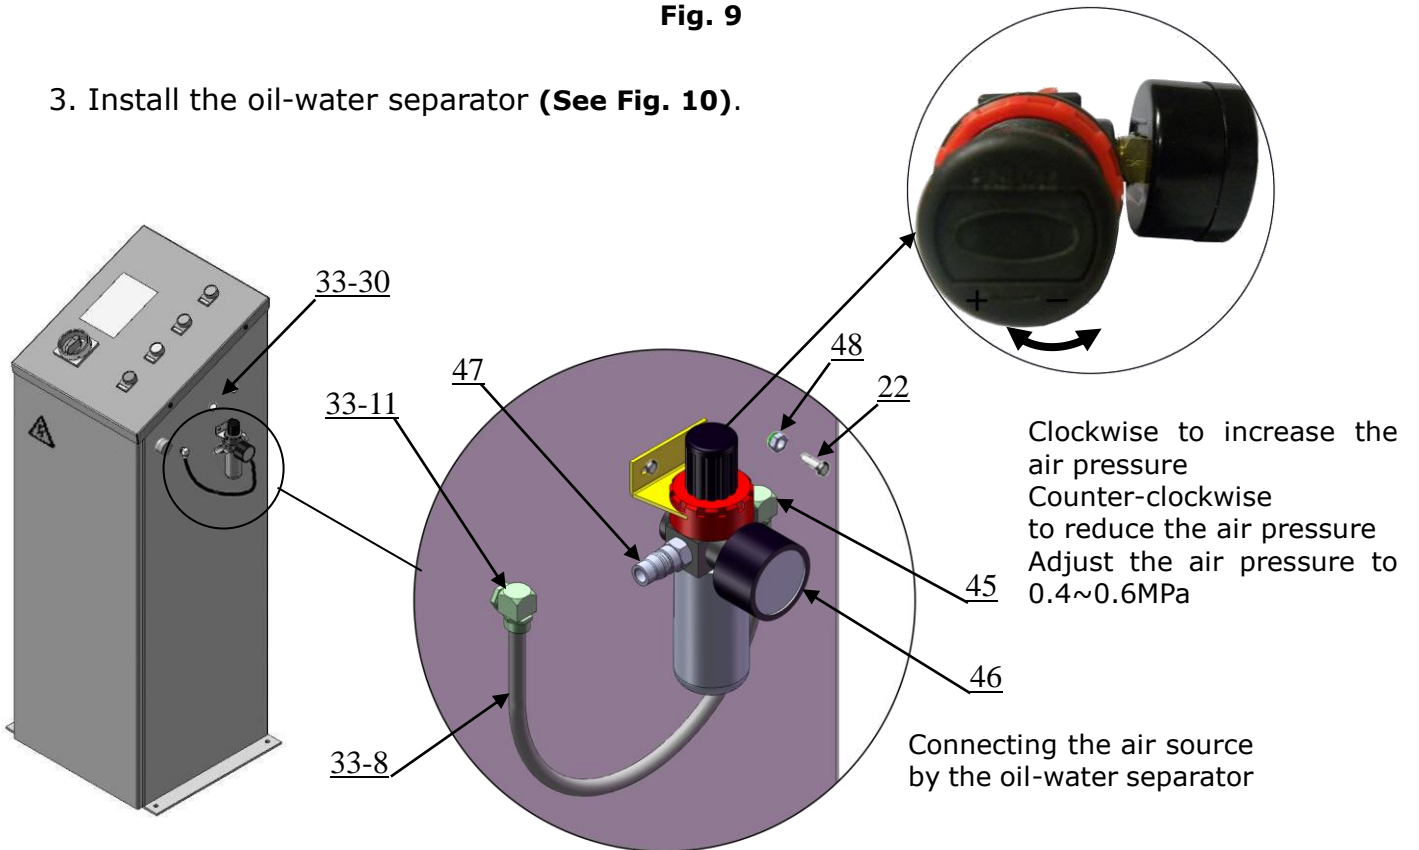

Fig. 10
3. Install the oil-water separator (See Fig. 10).